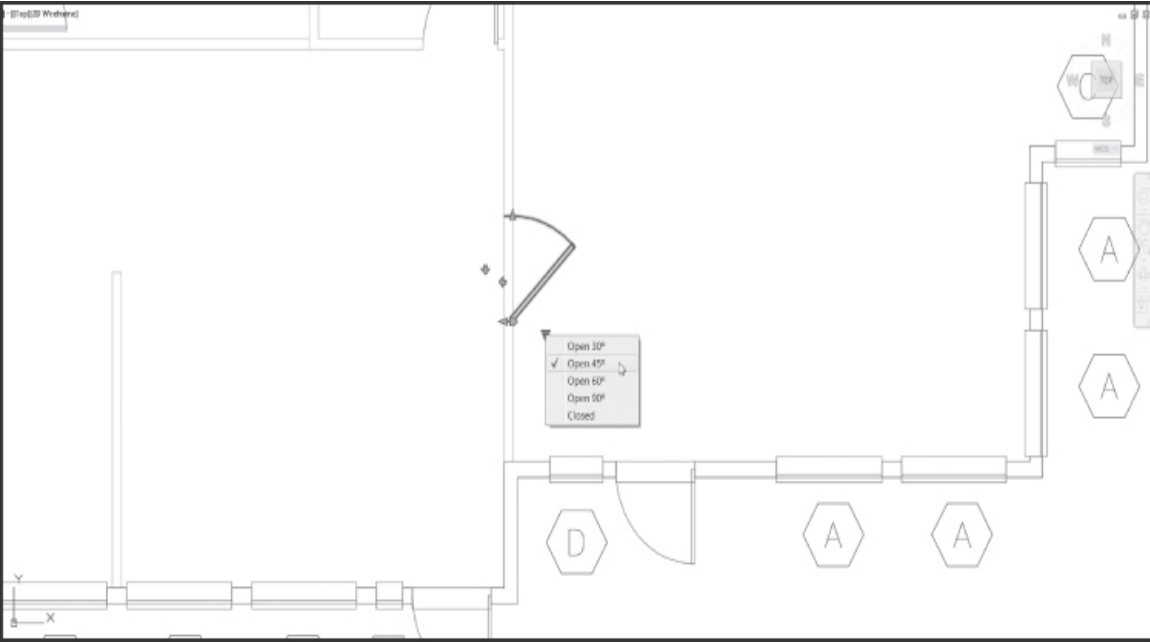

Figure 16-69
Using the **List Arrow** grip, the door opening angle can be set to 30°, 45°, 60°, 90°, or even appear closed as shown in Figure 16-69.
- 4 Select the **List Arrow** grip to display all the door opening angle options, and select **Open 45°** so that the door angle is updated as shown in Figure 16-69.